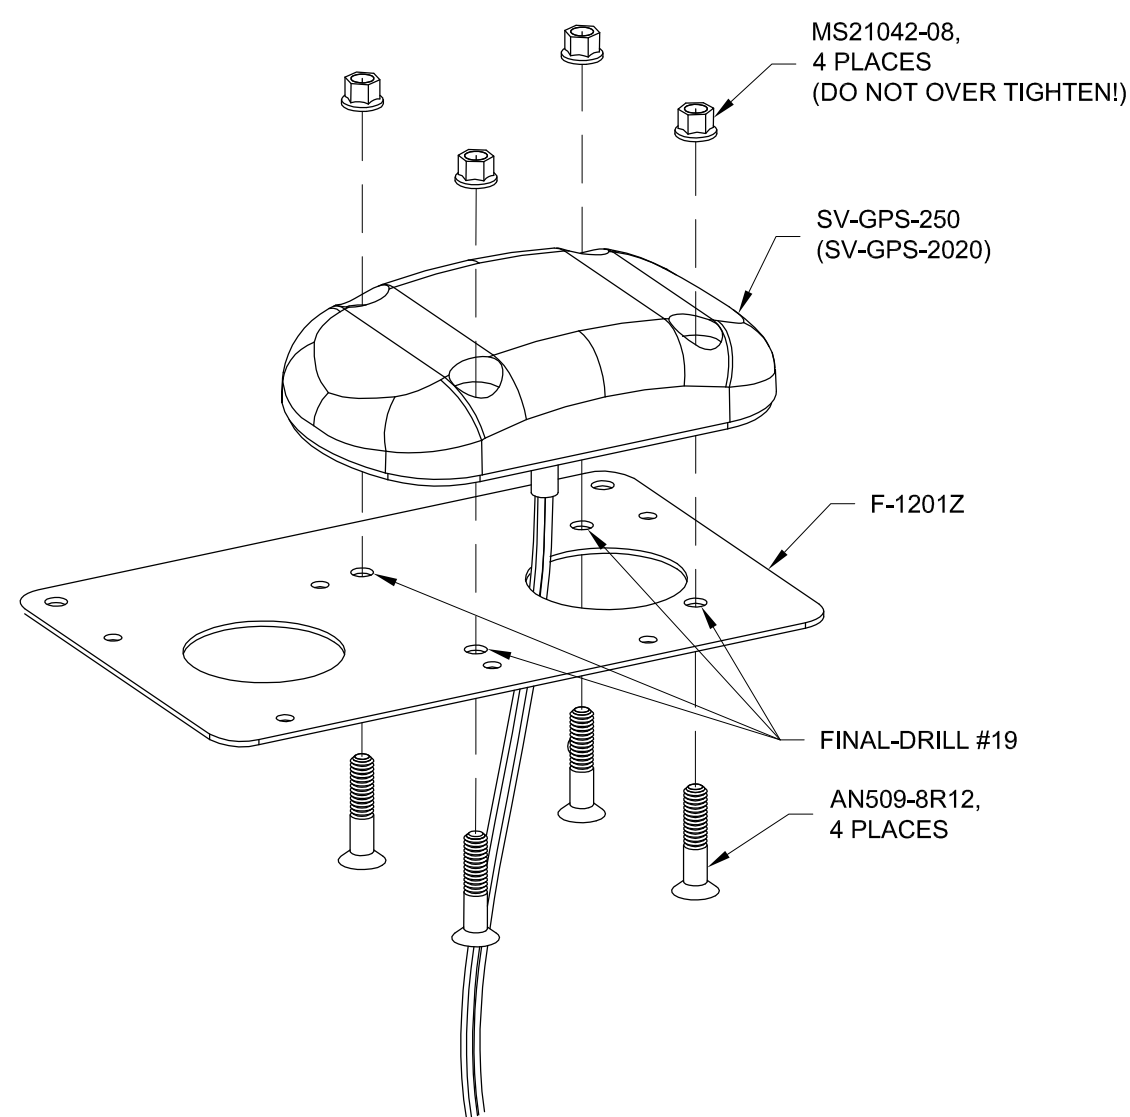

FIGURE 1: INSTALLING THE GPS RECEIVER
Step 3: Install the SV-GPS-250 or SV-GPS-2020 onto the F-1201Z Retaining Plate using the hardware called out in Figure 1.